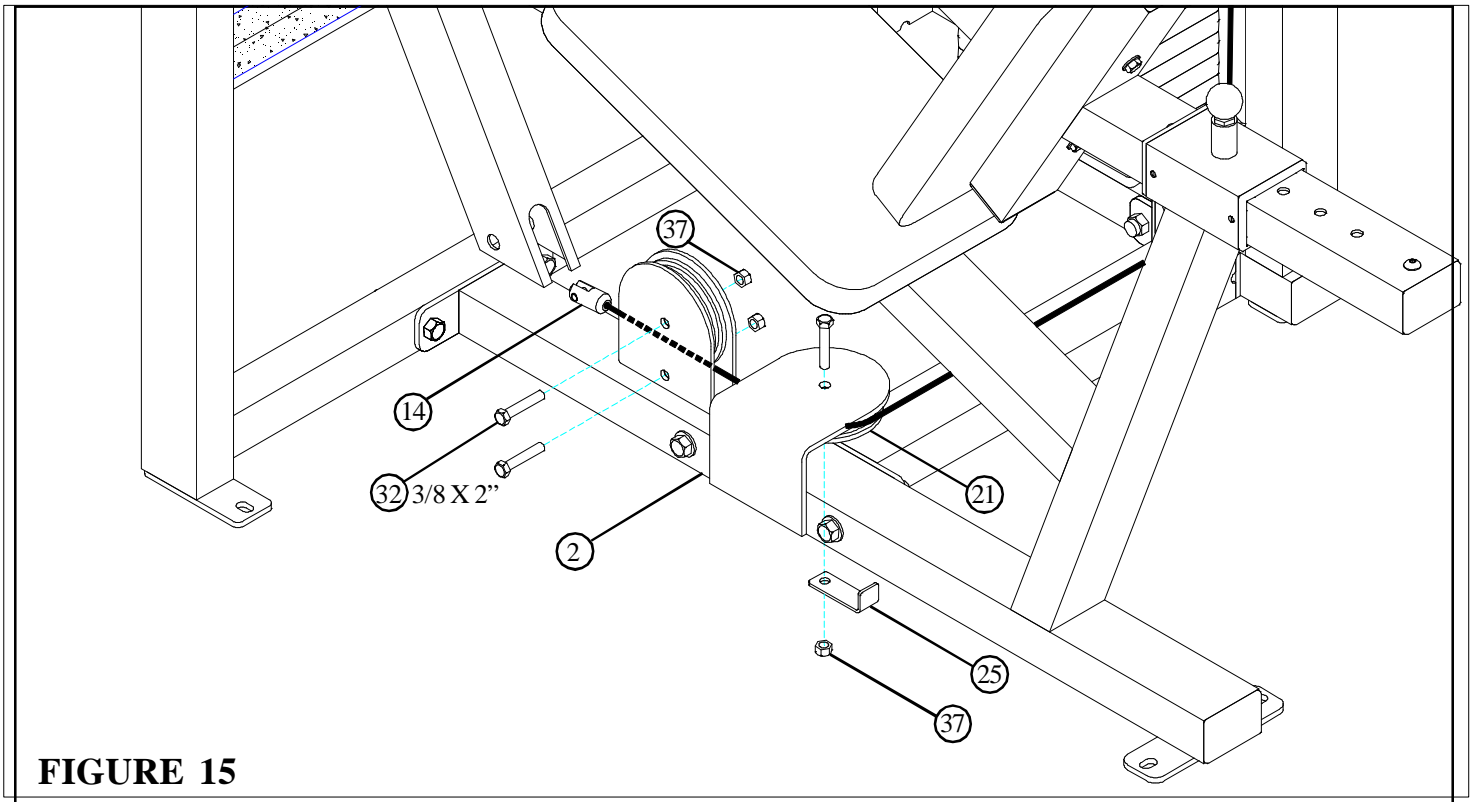

**FIGURE 14**
- Route the CABLE (14) around one 4-1/2\" PULLEY (15) and assemble the pulley to the bracket on the LOWER CROSS SUPPORT (4), using two 3/8 X 2\" BOLTS (32), and two 3/8\" LOCK NUTS (37) as shown in FIGURE 14. (NOTE: Make sure CABLE is running over 3/8 X 2\" RETAINING BOLT.)